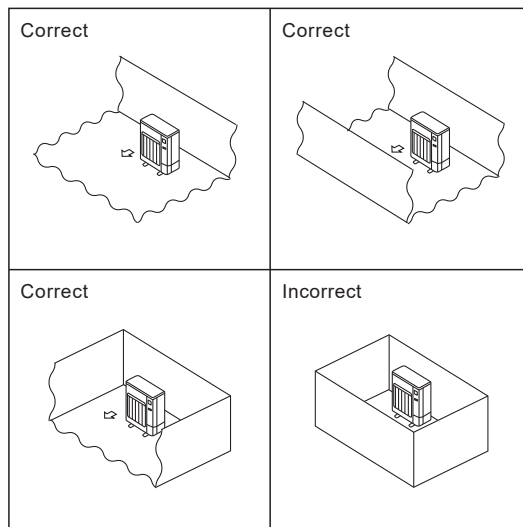

Fig. 2-1
- Install outdoor units in a place where at least one of the four sides is open, and in a sufficiently large space without depressions. (Fig. 2-1)